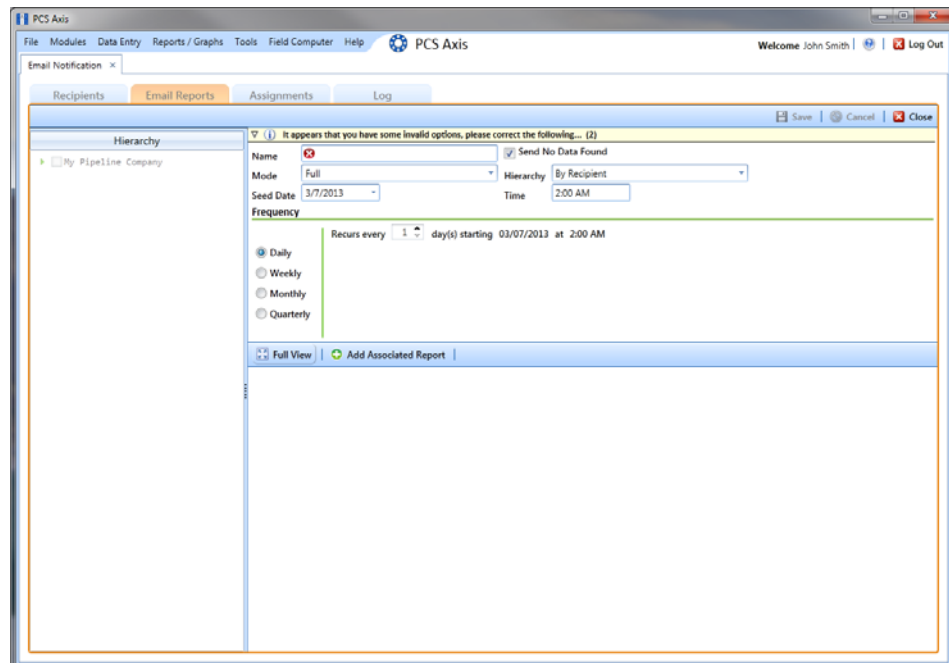

Figure 11-7. Email Reports
- 2 Click **Email Reports** Email Reports, then click + **Add** (Figure 11-7).
- 3 Type a name for the email report in the **Name** field. Fields requiring information include a  red icon, such as *Name* shown in the previous example (Figure 11-7, page 457).